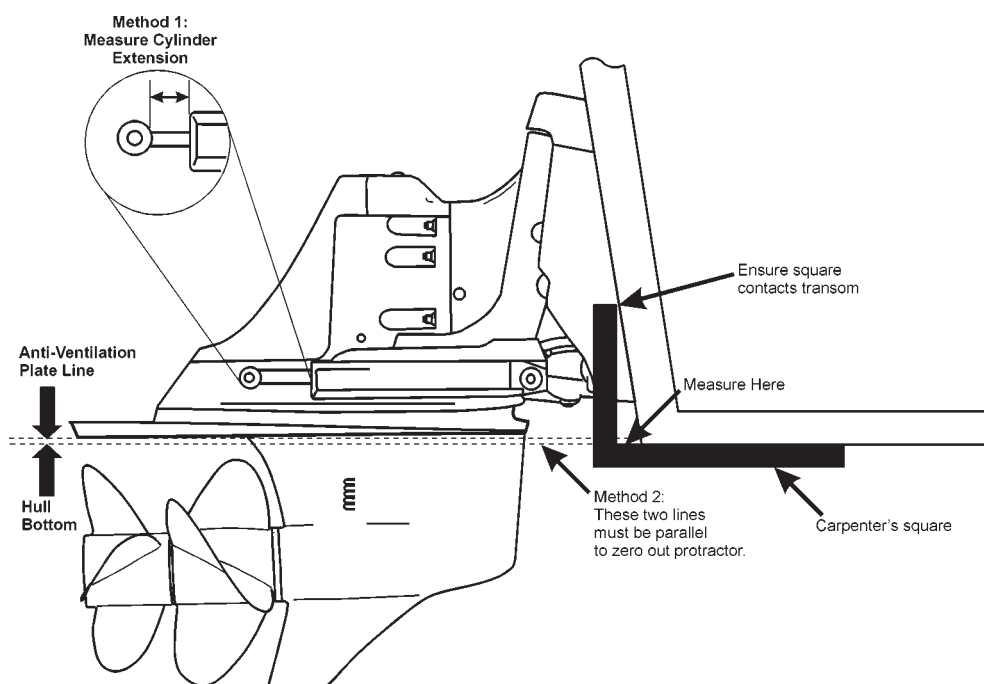

Figure 4
- After determining the boat's transom angle, move the drive to the 0° position by extending or retracting the drive until the trim/tilt cylinders are at the proper measurement for zero (0), as shown in table 1 under the correct transom angle column.
- Once zero is established, “sight-in” the drive and boat bottom (as shown in figure 4) to verify accuracy. If the anti-ventilation plate and boat bottom do not appear parallel, use Method 2 to zero out the drive.
- IMPORTANT:** Place the boat on a secure cradle, trailer, or other approved boat holding device. Adjust the drive unit so that the anti-ventilation plate is parallel to the boat's bottom (refer to figure 4). Use a straight edge along the